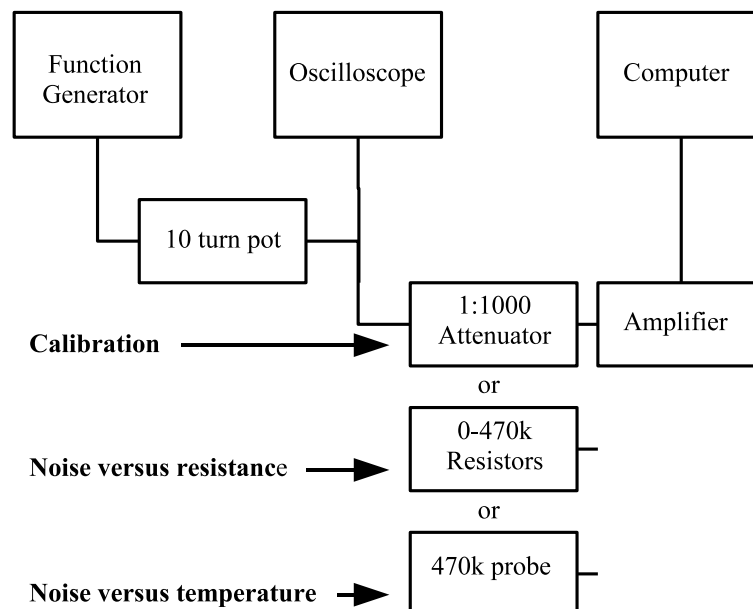

Fig. 5-1 : Block diagram of the noise experiment
The set-up shown in Fig. 5-1 consists of a carefully shielded low-noise amplifier with its output fed to the computer. The sound adaptor in the computer samples the signal and the digitised data is analysed by the *Intune* program. The input of the amplifier can be connected to different signal sources. During the process of calibration a signal from the function generator is measured by the oscilloscope and fed to the amplifier input through the 1000:1 attenuator. To investigate the dependence of thermal noise on resistance, the input of the amplifier will be connected to a set of 10 resistors. Finally, a resistor probe will be used to measure noise as a function of temperature. All input devices (the attenuator, the set of resistors and the resistor probe) should be connected *directly* to the amplifier (without any cable) to avoid stray capacitance that can act as a low pass filter and reduce the bandwidth Δf , especially when working with higher source resistances.
- Connect the equipment as shown in Fig. 5-1.